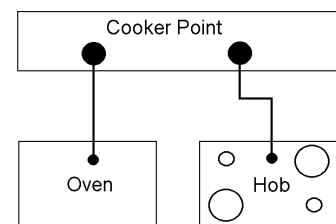

Fig. 2
- c) If you wish to connect an oven and a hob to a cooker point you can by connecting the oven and hob separately to the cooker point. Oven and hob units should be separately connected to a cooker point. See Fig. 2.